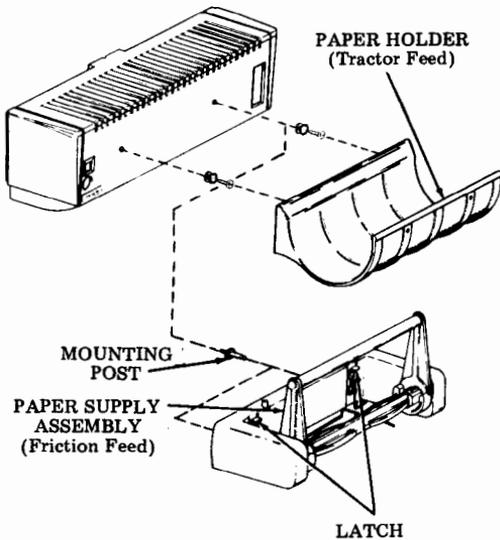

Fig. 2
3.09 Assemble the paper holder or paper supply assembly as shown in Fig. 2.